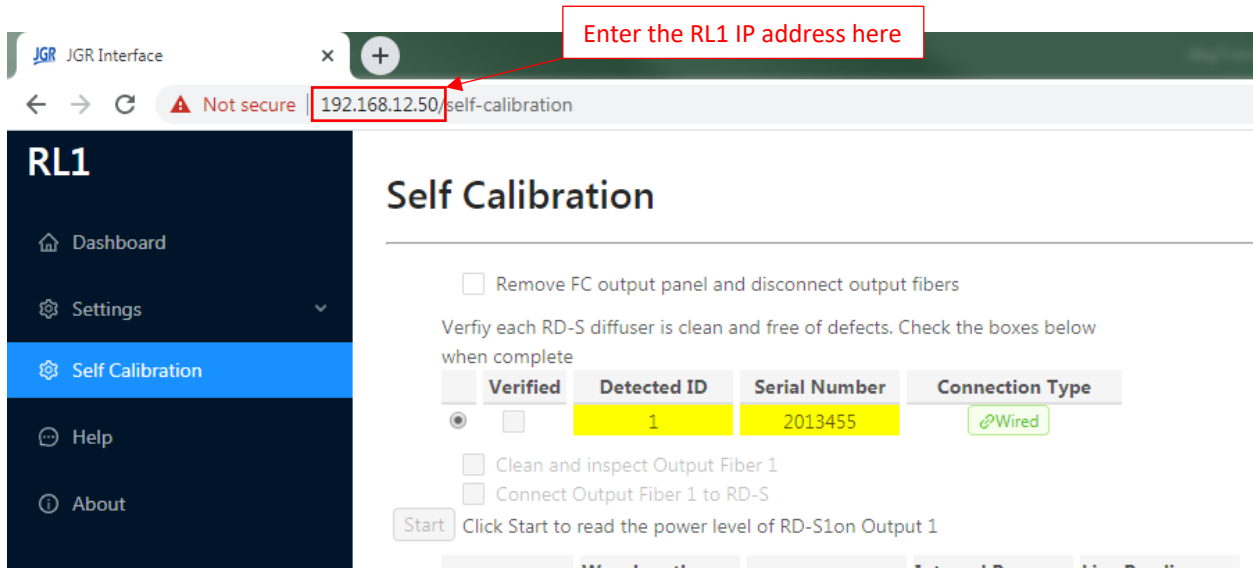

Figure 22: Accessing the RL1 self-calibration tab of the webpage
4. Click on the *Self Calibration* tab (see Figure 22)